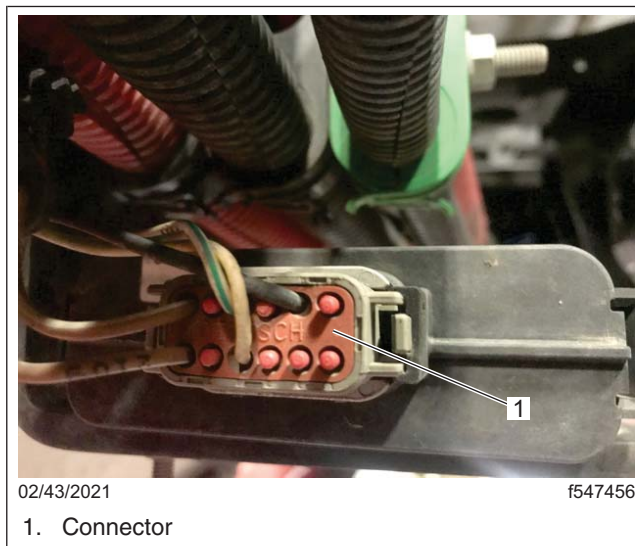

Fig. 2, TPMS Module Connector
IMPORTANT: **Figure 2** is intended for visual orientation purposes only. The wire routing should NOT be such that the wire connections are stressed, as is seen here. Proper procedure for wiring with this module is outlined below in Step 7.
3. Disconnect the wiring harness connector from the TPMS module. See **Fig. 2**.